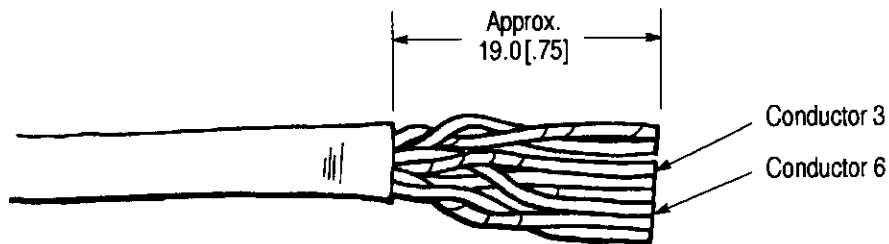

Figure 5
3. Slip thumb and forefinger from jacket edge onto conductors to maintain the proper orientation of the conductors. **Trim the conductor tips even**; leaving approximately 19.0 [.75] from jacket edge to wire tips. This makes insertion into the conductor management load bar easier. See Figure 5.
CRITICAL - It is extremely important to maintain conductor 6 twist as it crosses over the top of conductors 4 and 5 as shown in Figure 5.